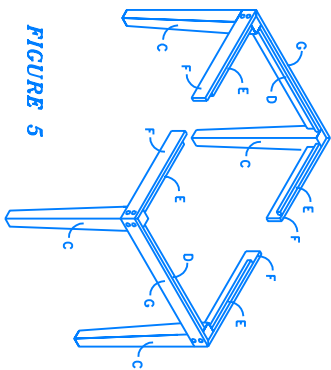

FIGURE 5
- 6) Drill two 1/8" holes 1 1/2" from each end of each piece F and G. (Fig 8 detail) sixteen holes in total.* Countersink on the outside (long) edges 3/8" deep with a 3/8" drill bit. Place legs upside down as they will lay for the assembled table, notched edges outward. Glue and screw pieces F and G to legs with sixteen #8 2" flathead flathead screws. Pre-drill and countersink 1/8" holes in pieces D and E. Both sides. Glue and screw pieces D and E to assembly CFCH through in Figure 5. The extra holes that were drilled through the other side of pieces D and E will enable you to attach the table top.